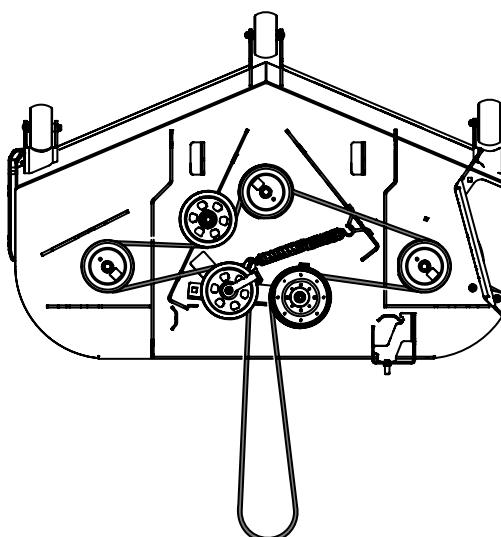

Figure 56
- Route the belt as shown in Figure 56. tighten and secure the idler arm hardware.